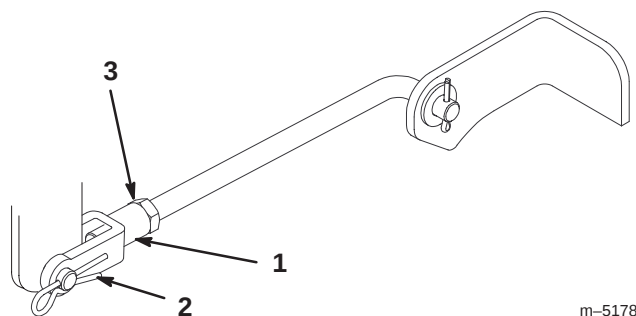

Figure 42
- To adjust the front-to-rear blade slope, remove the hairpin cotter from the front trunion yokes and loosen the jam nuts (Fig. 42).
- Rotate the yokes on the rods to change the adjustment (Fig. 42). To raise the front of the mower, tighten the yokes (shorten the rods). To lower the front of the mower, loosen the yokes (lengthen the rods).